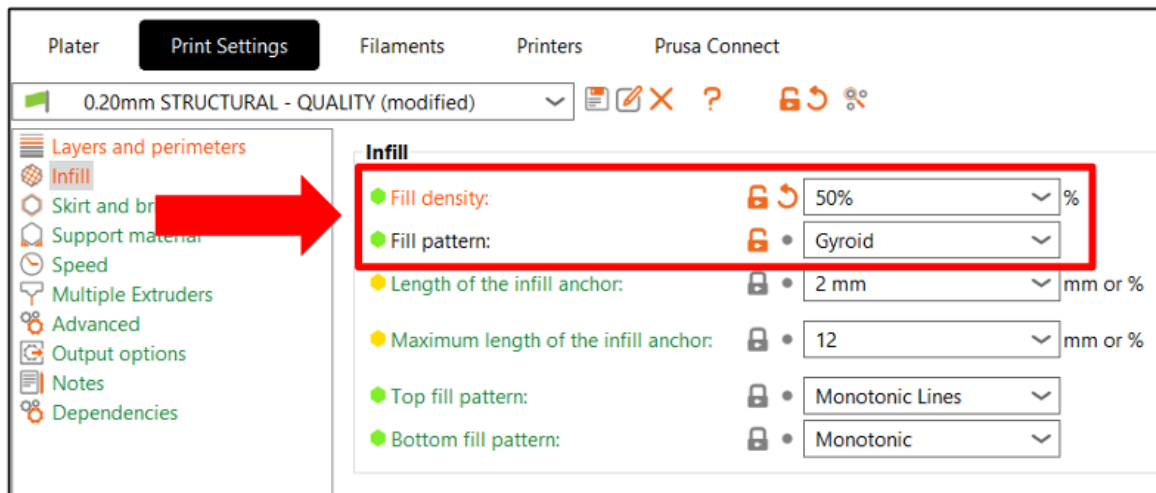

Figure 2
3) Change the fill density to 50% and the fill pattern to Gyroid (see red box in Figure 2).